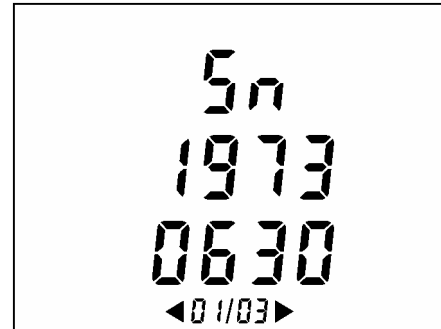

Figure 60: Appliance serial number (page 1/3).
- The appliance serial number (S_n = *Serial Number*) (Figure 60).